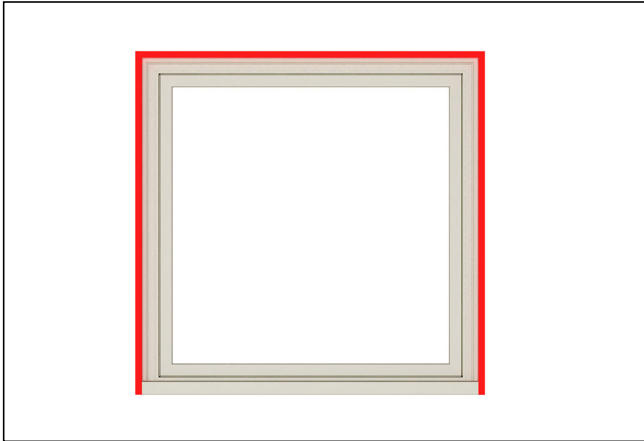

Figure 20
8. Seal casing with clear grade NS class 25 sealant at each jamb and the head jamb to siding or weather resistant barrier. (If required, backer rod may be used.) See *figure 20*.